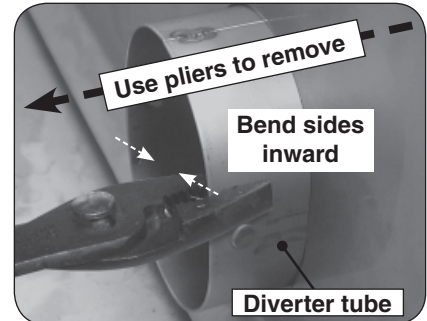
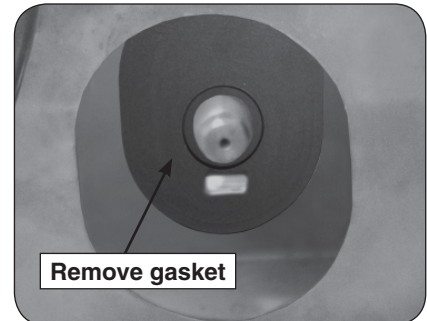

Fig. 2-3 Remove diverter tube
Fig. 2-4 Remove silicone gasket
7. The grill is equipped with a heatshield kit for each main burner. This kit is only functional with the standard main burner, and must be removed for proper infrared burner operation. Use pliers to remove the diverter tube by bending in each side and pulling it outwards (see Fig. 2-3), then reach in and remove the silicone gasket (see Fig. 2-4).